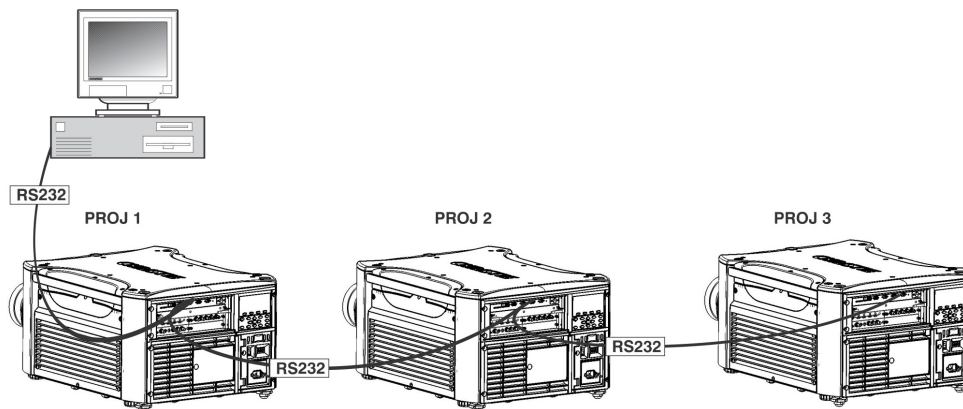

FIGURE 2-40 RS-232 NETWORK
3. Continue this pattern of connection with all projectors in the network. **NOTE:** *The last projector in the network will have a connection to the RS-232 IN connector only. See Figure 2-40.*